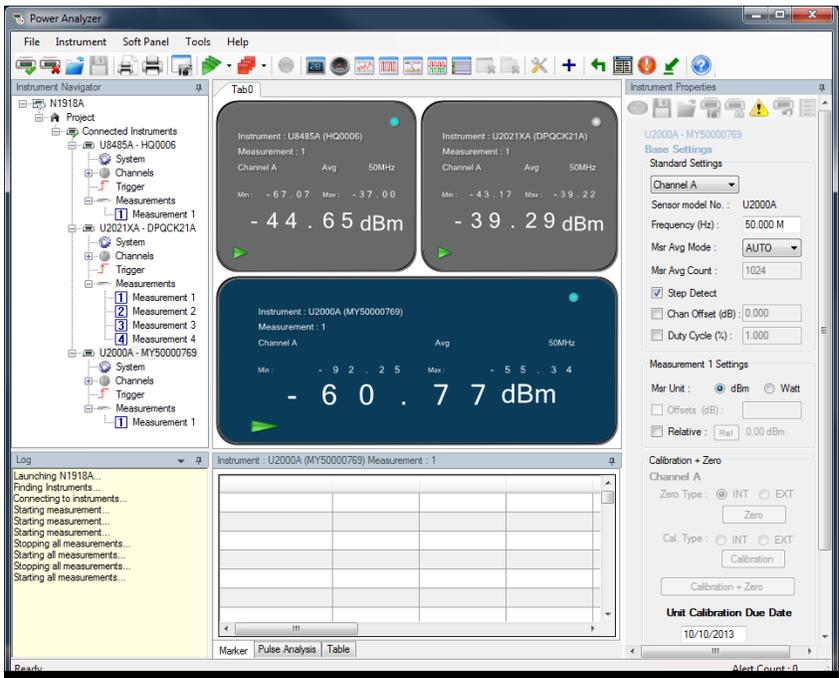

Figure 11. Multi-channel power measurement (in this example with 3 USB power sensors) via Keysight N1918A Power Analysis Manager, Power Analyzer software
3. Synchronize measurement acquisition (see Figure 11).	From toolbar, click Tool and select Options & Settings . From Options & Settings menu, in General tab, click Enable synchronous measurement acquisition and click Apply to proceed.